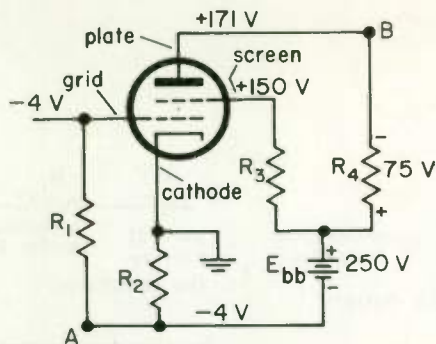

Fig. 31
1. The voltage of $+150$ V marked on Fig. 31 means that (*the voltage drop across R_3 is 150 V*)(*the screen is $+150$ V with respect to ground*).
- The voltage from point *B* to ground in Fig. 31 is $(75\text{ V})(+171\text{ V})$.
- The voltage at the positive terminal of the power supply E_{bb} in Fig. 31 is $(+250\text{ V with respect to ground})(+250\text{ V with respect to the negative terminal})$.